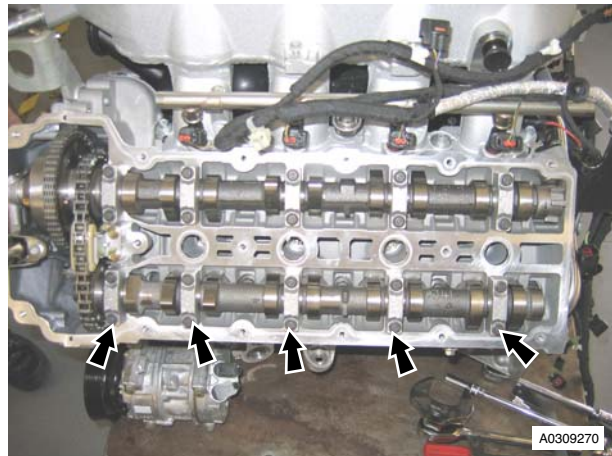

Figure 1
9. Remove the 10 left exhaust camshaft bearing cap attachment bolts evenly and in steps (refer to Figure 1).